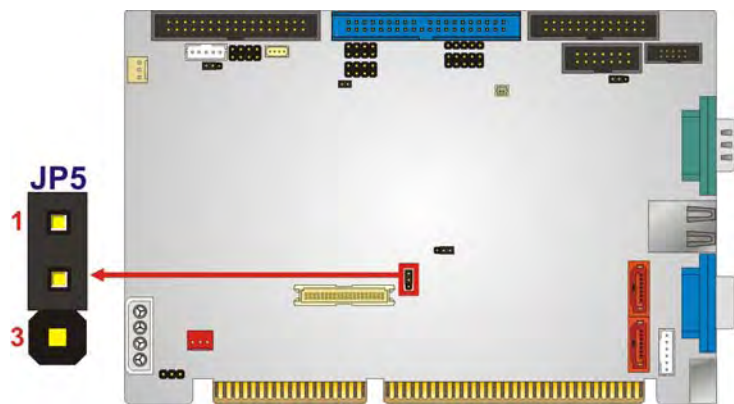

Figure 4-7: LVDS Voltage Selection Jumper Locations
- Jumper Location:** See Figure 4-7